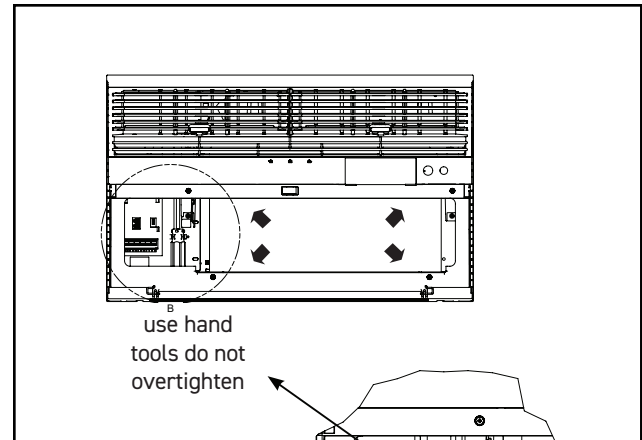

Figure C.4.16
STEP 14. To attach and prevent damage to the front grille, align the cord notch over the cord and center the fresh air lever, then align and tighten the four (4) captive screws as indicated by the arrows in Figure C.4.16. (preferred tool is a 1/4" nut driver) Before closing the front panel, be sure the filter is in place. Make sure curtains do not block the side air intakes.